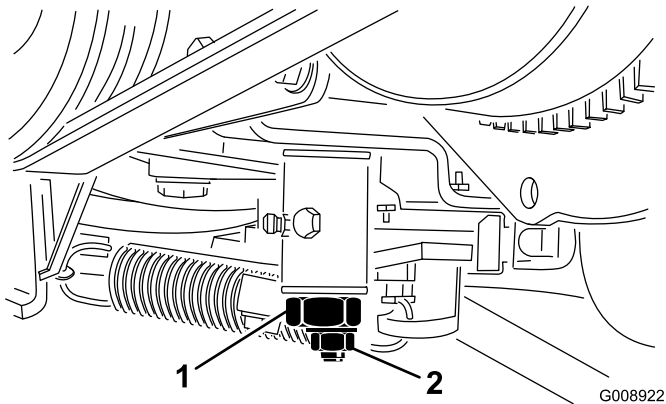

Figure 56
2. Loosen the throttle cable connector on the injection pump lever arm (Figure 56).